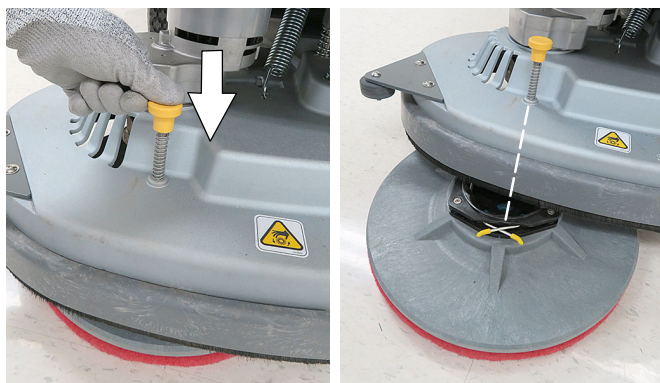

FIG. 14
- To remove the pad drivers/brushes, raise the scrub head and press down on the yellow pad release plunger (Figure 14). Pad will drop to floor.